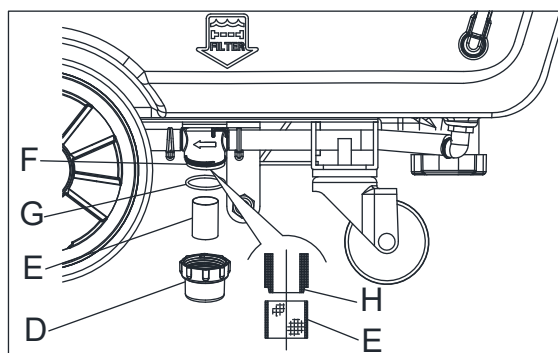

Figure 16
- Ensure that the machine is off and the ignition key (35) has been removed.
- Remove the transparent cover (D, Figure 16), then remove the filter strainer (E). Clean and install them on the support (F).